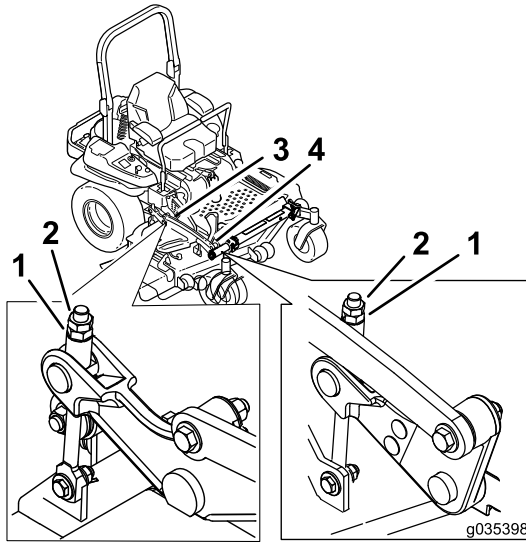

**Figure 98**
9. On both sides of the deck, measure from the level surface to the front tip of the blade (Position A) as shown in Figure 98.
16. On both sides of the deck, measure from the level surface to the back tip of the blade (position B) as shown in Figure 98.